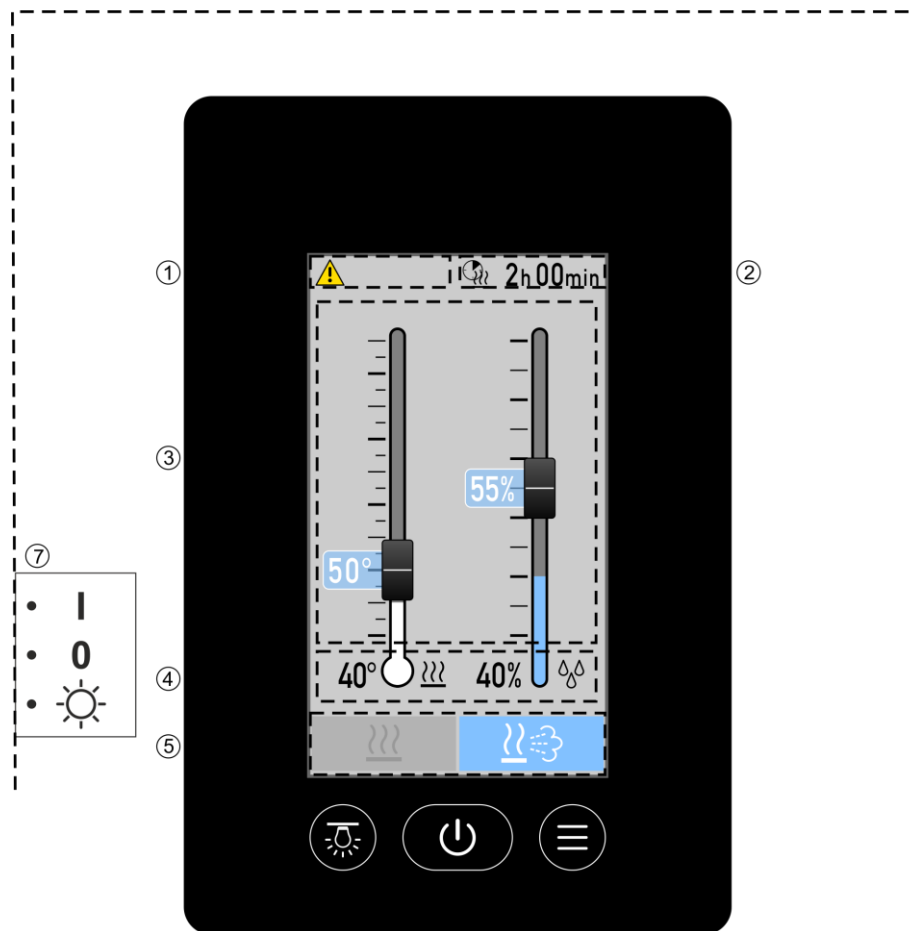

Fig. 2: View of the controls for the FCU5xxx Design Touch
The following symbols can be shown in the status bar (1 in fig. 2):
1. Use the "Control unit ON" key to switch on the sauna control unit. → Refer to page 11 (fig. 2) or page 12 (section 4.2.2).
2. Use "Control unit standby" or "Power OFF" to switch off the sauna control unit → Refer to page 11, fig. 2 or page 12 (section 4.2.2).
2. Use the adjustable slider in the "Temperature / humidity settings" section (refer to fig. 2) to set the preferred temperature / humidity (refer to table 4).
3. The current values for temperature/humidity are shown in the section "Display temperature/humidity in the cabin (refer to fig. 2). The values are also shown as icons in the display.
4. Press and hold the section "Heating period / Remaining heating period" (refer to fig. 2) until the menu opens in order to adjust the heating period (refer to page 22).